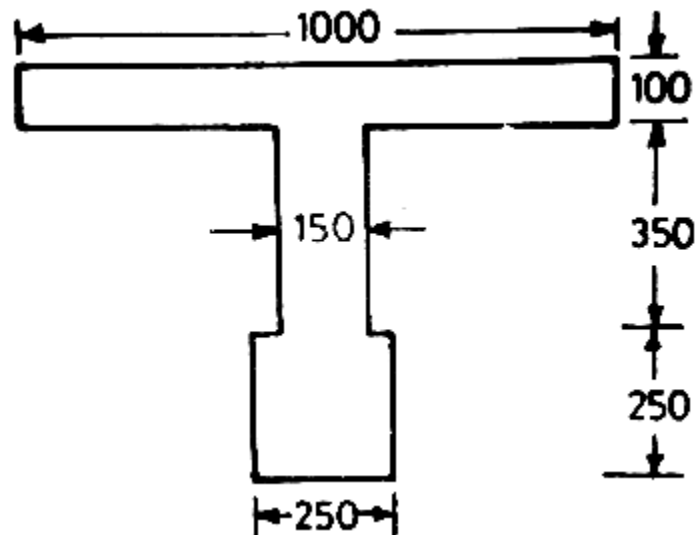

Figure-1
6. The cross section of a prestressed concrete beam is shown in Figure-1. Calculate the moment of inertia of this section about the centroidal axes parallel to and perpendicular to top edge. Also determine the radius of gyration. 16 M